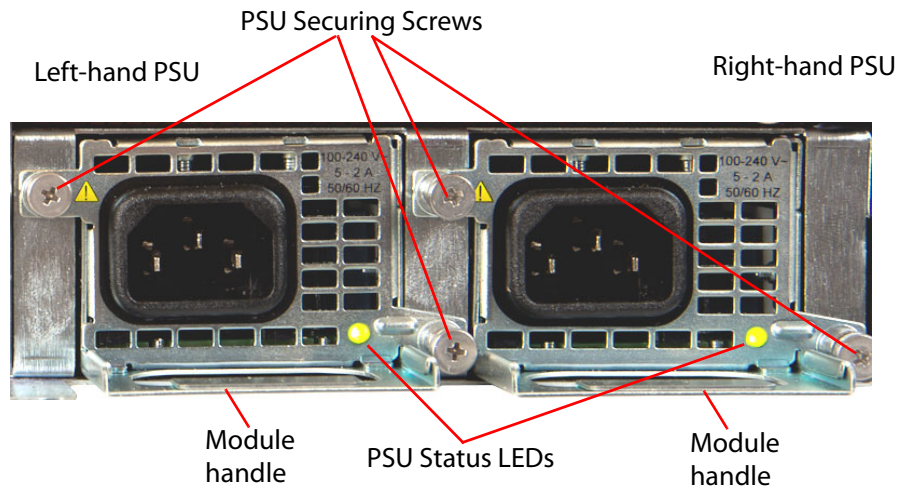

Fig. 11-3: MV-825-RTR Rear PSU modules
Two PSU modules are fitted into the rear of the MV-825-RTR chassis. Each is secured with two fixing screws, see Figure 11-3.
- 2 Unscrew two PSU securing screws, see Figure 11-3.
- 1 Note the orientation of a PSU module in the MV-825-RTR chassis, see Figure 11-3.
- 3 Tighten the two PSU securing screws, see Figure 11-3.